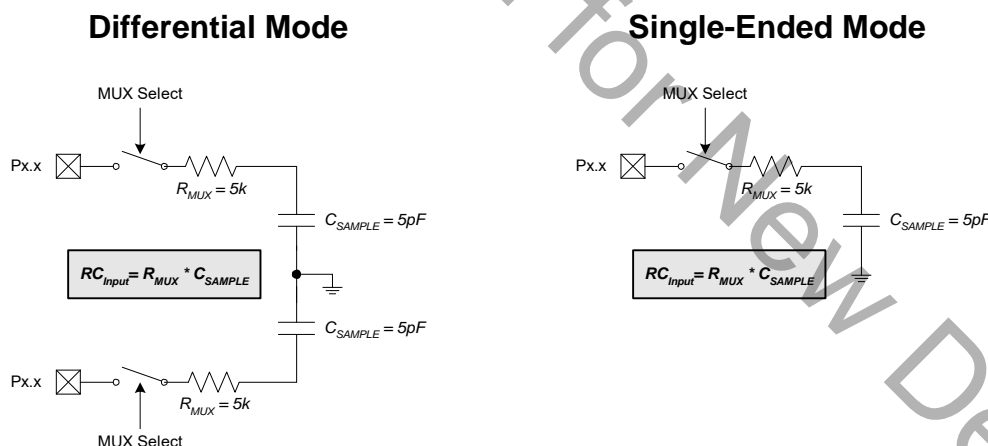

Figure 5.4. ADC0 Equivalent Input Circuits
Figure 5.4 shows the equivalent ADC0 input circuits for both Differential and Single-ended modes. Notice that the equivalent time constant for both input circuits is the same. The required ADC0 settling time for a given settling accuracy (SA) may be approximated by Equation 5.1. When measuring the Temperature Sensor output or  $V_{DD}$  with respect to GND,  $R_{TOTAL}$  reduces to  $R_{MUX}$ . See Table 5.1 for ADC0 minimum settling time requirements.